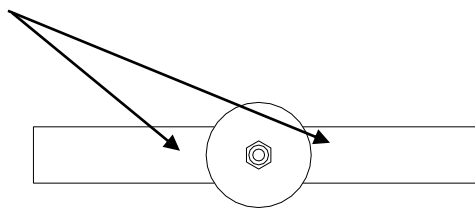

Figure 4
3. The magnet is designed to hold the base in place while 2 sheet metal screws are installed as close to the magnet as possible to secure the assembly to the frame. See figure 4 below.